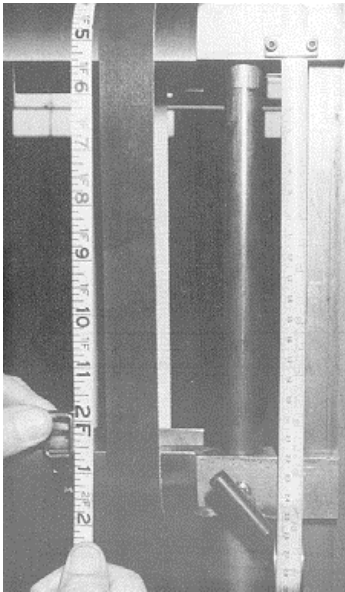
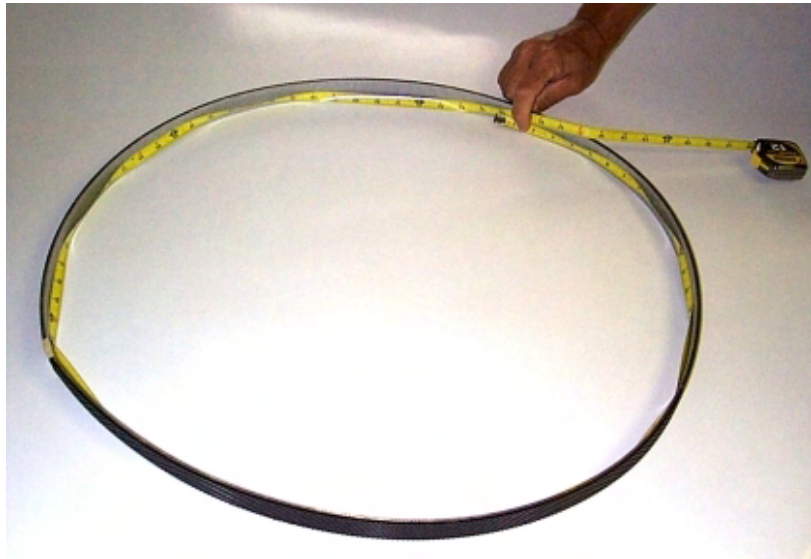

Fig. 3 (Fixture Method)
Fig. 4 (Alternate Method)
Endless, flat belts are manufactured based on the **inner** circumference or length of the belt. This is especially important when the belt has significant thickness. The best way to determine the inner length is to place the belt on an adjustable fixture with a built-in scale, Fig. 3. A preset amount of tension ensures that repeatable and accurate measurements are obtained. If a fixture is not available, then the procedures described below and shown in Figs. 4 or 5 may be used.
- A. If this is done as a continuous measurement on a circular belt as in Fig. 4, then the measurement is the inner length.